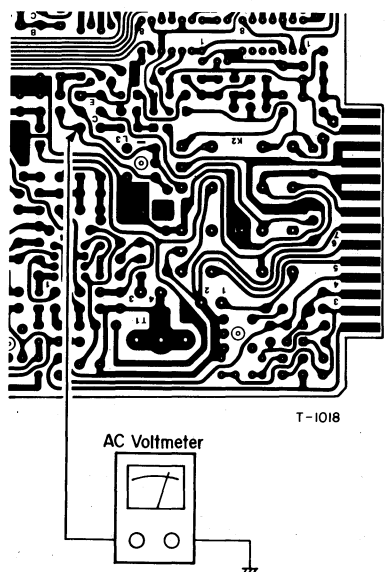

Fig. 4-22 Bias Trap Check Point
29. Connect an AC voltmeter or oscilloscope across bias trap T.P. and ground. See Fig. 4-22.